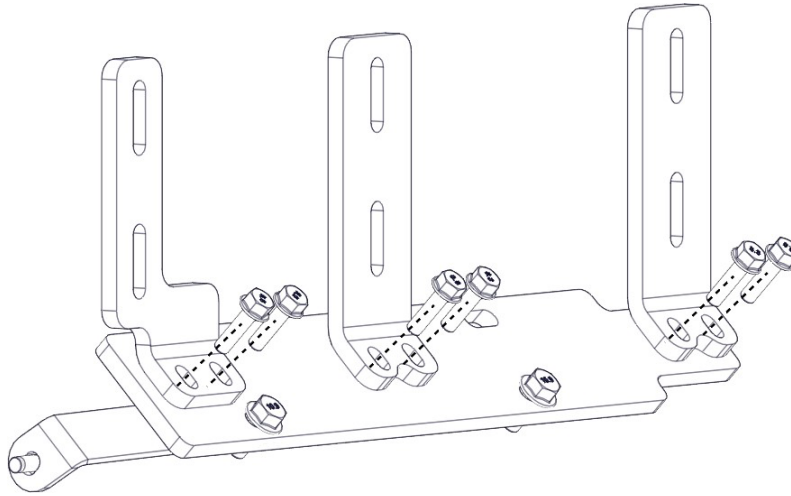

Figure 50.
6. Insert and torque down the two bolts to all supporting brackets (Figure 50) on the lock-off plate to 22 ft/lbs.